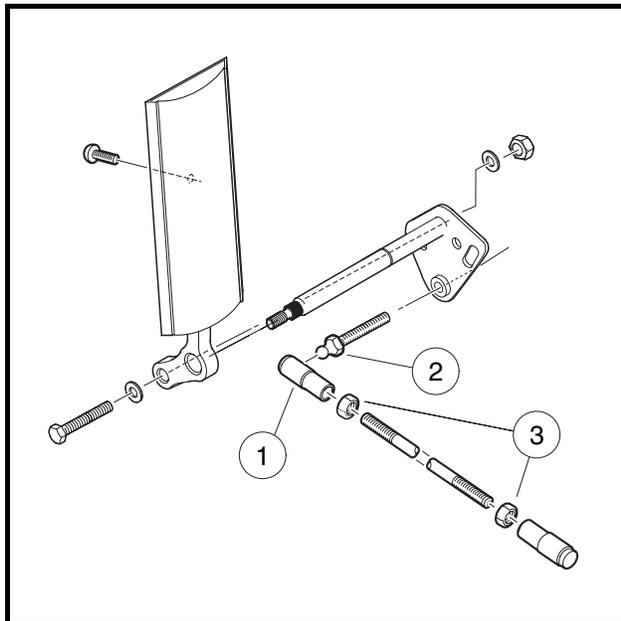
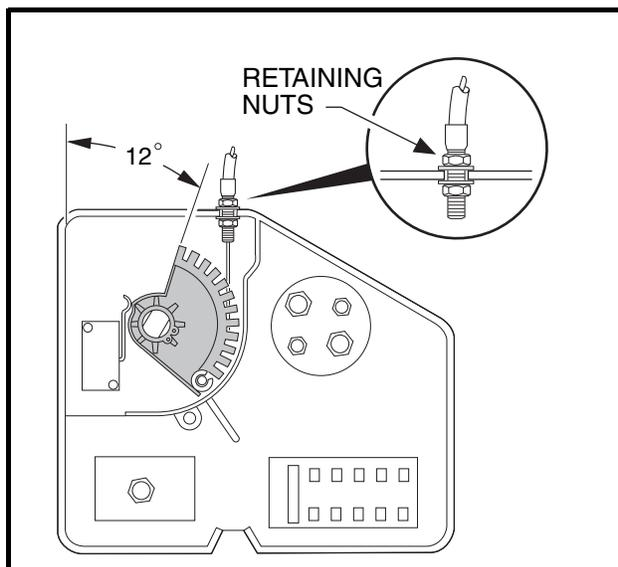

Figure 14-3 Accelerator Rod
Figure 14-4 DS Golf Car and Villager 4 Cam Position
2. Remove the accelerator rod by disconnecting the ball joint (1) from the ball stud (2) on the accelerator pedal (Figure 14-3, Page 14-6) and from the bell crank at the electrical box (Figure 14-6, Page 14-8).
2. Install the ball joint on the ball stud at the accelerator pedal (**Figure 14-3, Page 14-6**).
- For the DS and Villager 4 vehicles, with the ball joint jam nuts (3) loose (**Figure 14-3, Page 14-6**), adjust the length of the accelerator rod to obtain a throttle cable cam position of  $12^\circ$  as shown (**Figure 14-4, Page 14-7**).
- For Turf 1 and Carryall 1 vehicles, with the ball joint jam nuts (3) loose (**Figure 14-3, Page 14-6**), adjust the length of the accelerator rod so the indicated cam edge is parallel with the edge of the electrical component box as shown (**Figure 14-5, Page 14-7**).
1. Remove the electrical box screw and cover and loosen the accelerator cable housing retaining nuts (**Figure 14-4, Page 14-7 or Figure 14-5, Page 14-7**).
2. Insert the cable housing into the mounting slot in the wall of the electrical box, with approximately the same number of threads visible between the jam nuts as are visible from the nut inside the box to the end of the cable housing (**Figure 14-4, Page 14-7 or Figure 14-5, Page 14-7**). Tighten the nuts finger tight.
6. To **reduce** RPM, loosen the accelerator cable retaining nut on the outside of the electrical box wall and tighten the retaining nut on the inside of the wall until the specified RPM is reached (**Figure 14-4, Page 14-7 or Figure 14-5, Page 14-7**). To **increase** RPM, loosen the cable retaining nut inside the electrical box and tighten the nut outside the box until the specified RPM is reached.